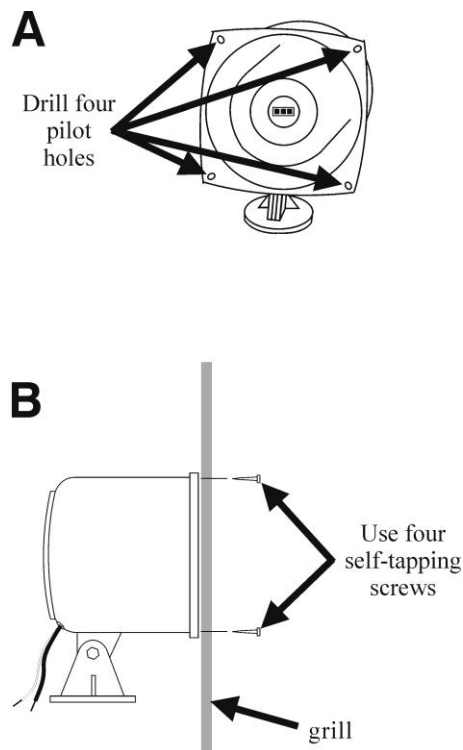

Figure 21. Installing the SP2000A
- Drill four 1/8 inch (3.2 mm) pilot holes at the spots shown on Figure 21 A, in the flange of the SP2000A.
- Hold the SP2000A flush against the inside of the speaker grill, with the four pilot holes on its flange directly over the four holes drilled through the grill speaker. From the outside of the speaker grill, drill the four enclosed self-tapping screws through the drilled holes in the speaker grill and through the SP2000A flange at each pilot hole, as shown in Figure 21 B.